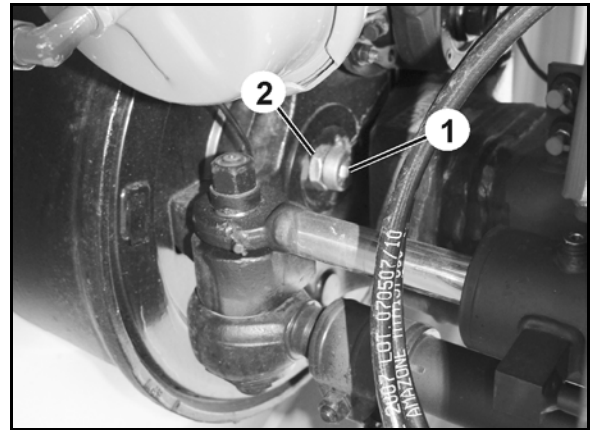

Fig. 46
2. Tighten the locking screw (Fig. 46/1) in the brake drum and secure with a lock nut (Fig. 46/2).